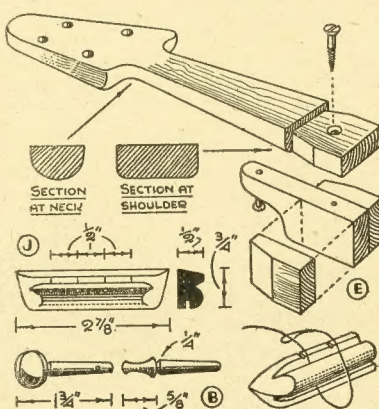

Fig. 3—Detail of handle at shoulder; piece J is bridge, B peg shape, etc.
Having checked the shoulder end as shown, the underside of the handle is rounded to the sections (Fig. 3) and then glued and screwed on top of the support blocking as indicated (E). It is imperative, of course, that the handle is truly in line with the body shape. If a central line is ruled down the surface of the handle and front body piece, the latter will, when set temporarily in position, enable you to look down the lines and draw the handle into alignment.
This also applies to the bridge (J) and pegs (B) as detailed at Fig. 3. The writer used whitewood in making the bridge and polished it ebony, and readers might care to follow this example.